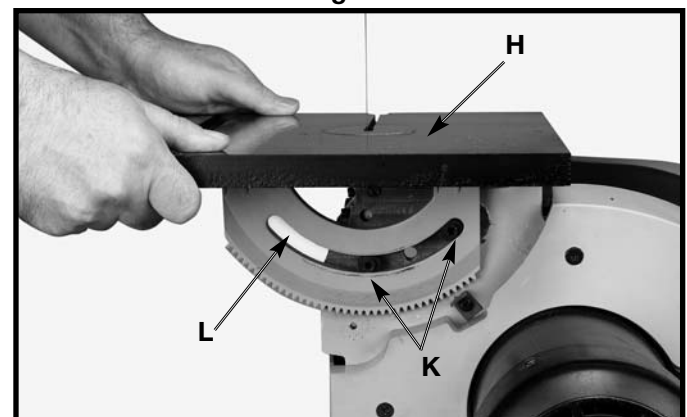

Fig. 11
3. Place table (H) Fig. 11 on the band saw frame so that the keepers (K) protrude through the slot of the trunnion (L).